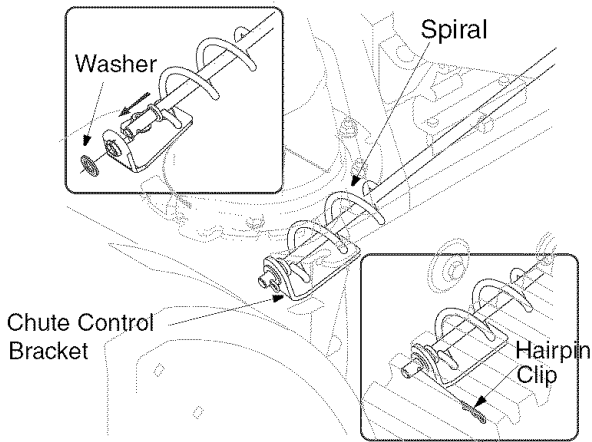

Figure 5
8. Insert the end of the chute directional control into the hole on the chute control bracket and align its spirals with the teeth of the discharge chute assembly. See Figure 5.
- Secure the chute directional control to the bracket with flat washer and hairpin clip. See Figure 5.